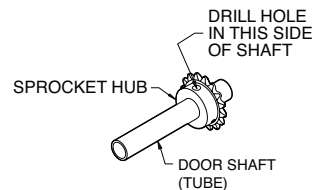

Figure 7A
- 1) Use non-threaded hole in door shaft sprocket as a guide and drill a 3/8" diameter hole through one side of the door shaft. **Fig. 7A.**